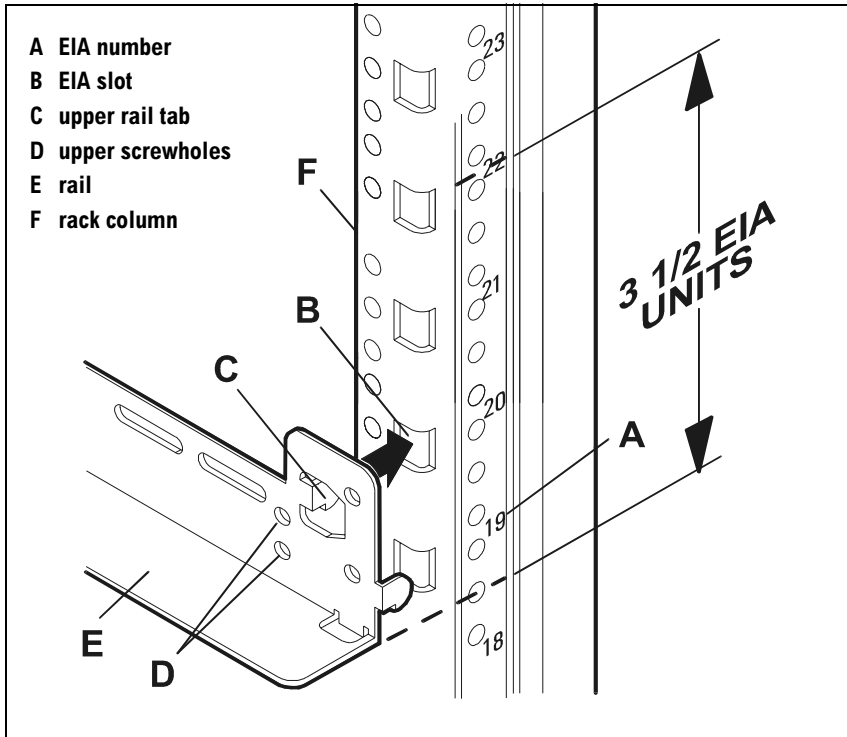

Figure 19 Mid-EIA Unit Rail Position
- To set rails between EIA Units, use the upper rail tabs (C in Figure 19) in the next EIA slot (B).